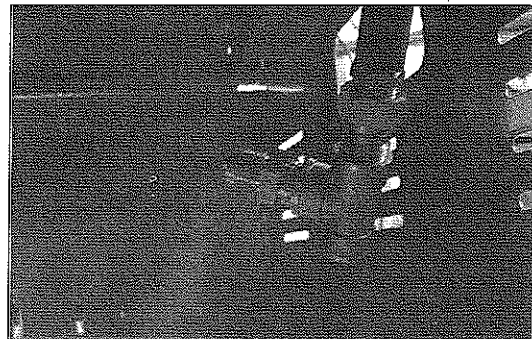

Fig 21
26. Attach the Connector 3/8" NPT x 3/8" UNF to the tee fitting as shown. Tighten with wrench. (See Fig. 21)